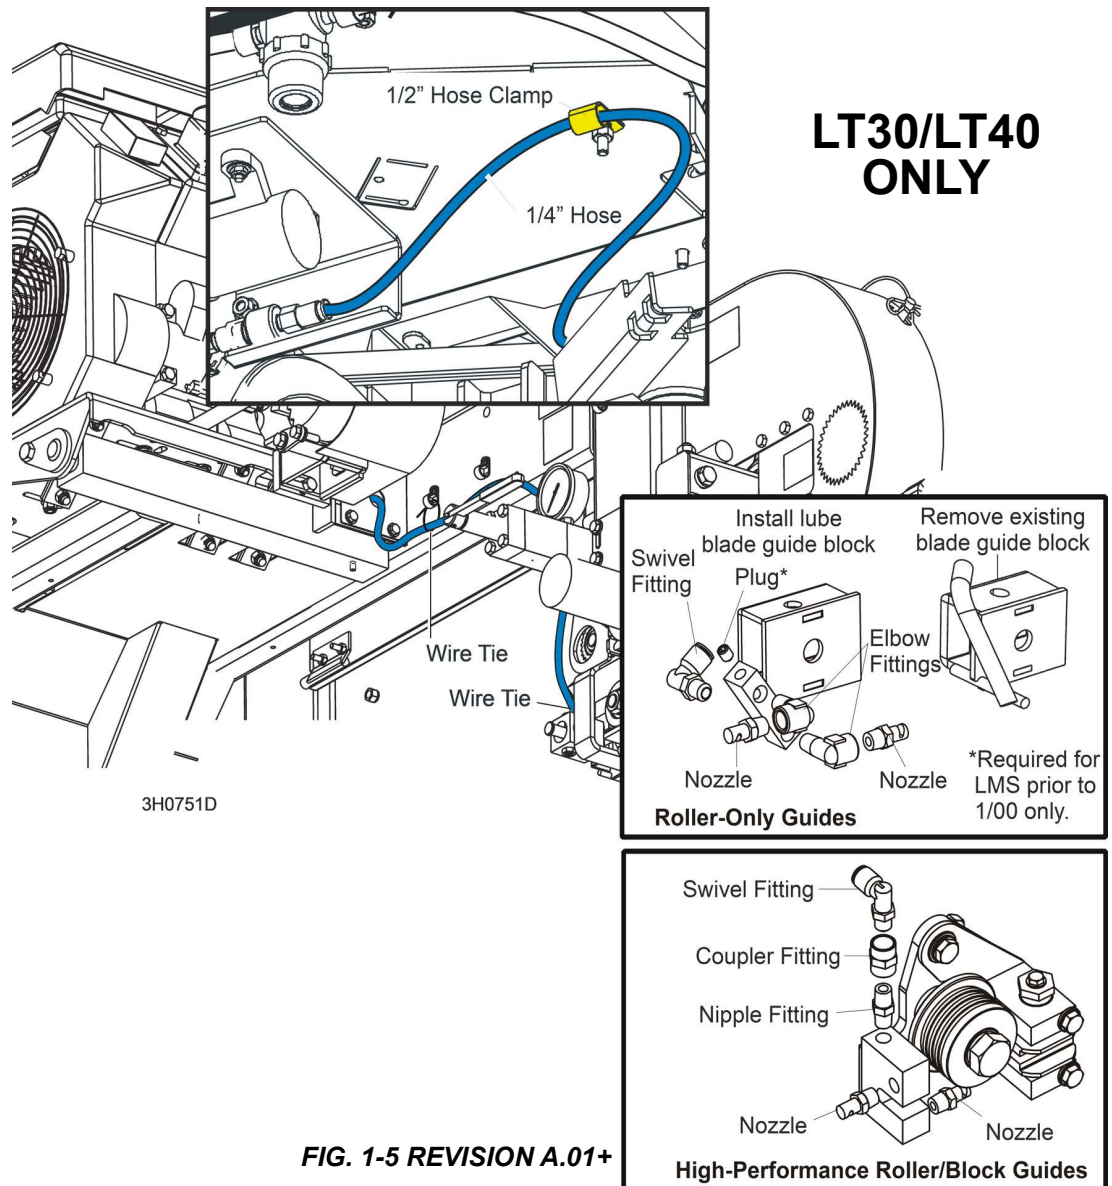

FIG. 1-5 REVISION A.01+
8. Locate the provided 1/4" hose. Insert one end to the pump valve as shown in FIG. 1-5.